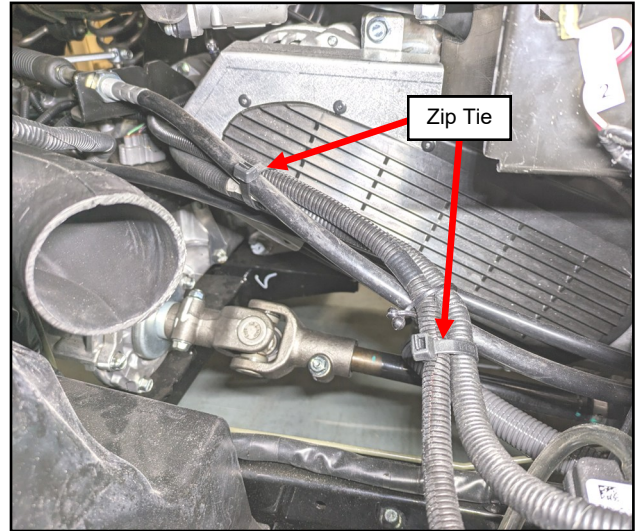

Fig. 4.5 (Secure New Alternator Wire)
- 4.5 Route the new alternator wire along the OEM alternator wire as shown in fig 4.5. Secure with supplied zip ties.